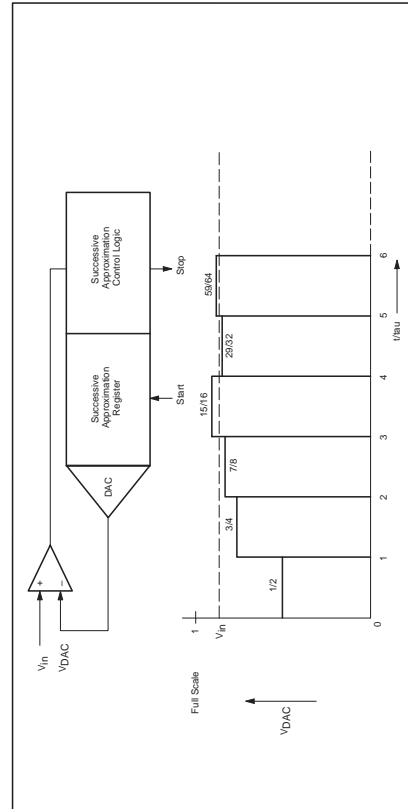

Figure 35. Successive Approximation ADC
Analog-to-Digital Conversion: Figure 35 shows the elements of a successive approximation (SA) ADC. The ADC contains a DAC which converts the contents of a successive approximation register to a voltage (VDAC) which is compared to the analog input voltage (VIN). The output of the comparator is fed to the successive approximation control logic which controls the successive approximation register. A conversion is initiated by setting ADCS in the ADCON register. ADCS can be set by software only or by either hardware or software.